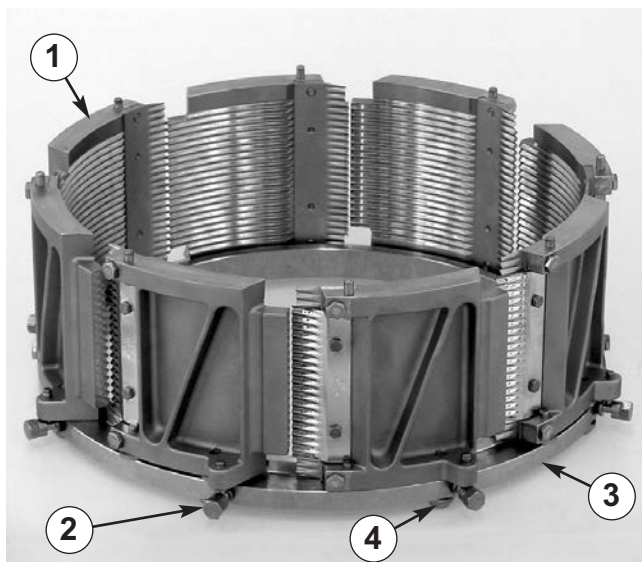

Figure 24 — Cutting head upside down for maintenance. (1) Shoe, (2) Adjusting Screw, (3) Top Support Ring, (4) Fastener for Shoe
2. **Remove shoes.** Extend the cutting head a safe distance beyond the edge of the work bench, enough to allow access to the fastener that holds one shoe (Figure 24). Unfasten the screw and remove the shoe. Rotate the head, removing each shoe. Shred head shoes are alternately attached with spacers to raise every other shoe.